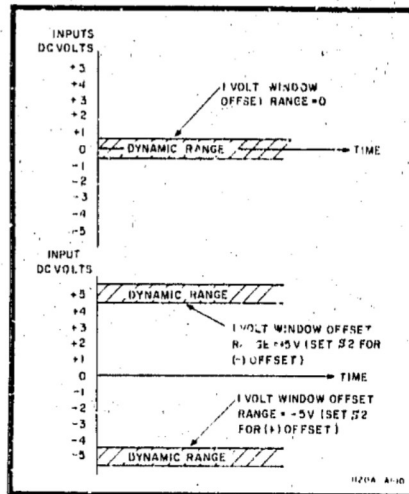

Figure 4. Offset Operating Range
16. The dynamic range of the Model 1120A is ± 0.5 volt (without voltage dividers). When using the offset circuit, the dynamic range becomes a 1-volt window in which the input signal is observed. The offset range is from -5 volts to +5 volts. Figure 4 shows the 1 volt window in relation to the offset range.